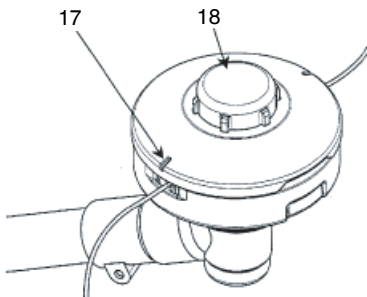

Fig. 14
If the wear limit mark (17) on the case is no longer visible or there is a hole in the bottom (18) of the button, change the new parts immediately. (Fig. 14)